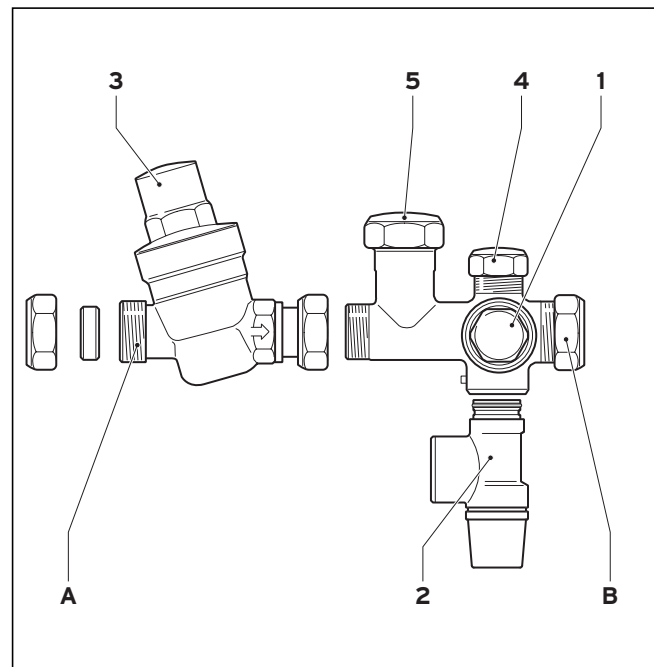

Fig. 8
- Connect the two cold water control valves together as shown in fig. 8, ensuring that the orientation of the valves, when installed in the cold mains supply, allows the 15 mm outlet of the expansion relief valve to be connected to the tundish.
To ensure optimum performance from the uniSTOR, and particularly in installations where the balanced pressure cold water outlet (5, fig. 8) is to be used, the pipework provided from the building mains stop valve to the uniSTOR cylinder should be minimum 22 mm copper tube.
- Install the assembled cold water control valves (fig. 8) in the cold mains supply at a convenient position adjacent to the uniSTOR cylinder, ensuring adequate space exists for service access and allow for connection of the discharge pipe from expansion relief valve.
- i. Screwing the vessel directly into the control assembly at the purpose provided connection (1, fig. 8) or;
- Connect the balanced pressure cold water supply (if required) to the cold water control pack (see fig. 8).
In areas where the mains water pressure is high (4 bar or above) the cold water supply to a bath or shower mixer valve can be taken from the balanced pressure cold water outlet (5, fig. 8) of the cold water controls. This will ensure that both hot and cold supplies to the mixer valve are at approximately the same pressure. The cold water supply for all other terminal fittings should be feed into the cold water supply pipework to the uniSTOR upstream of the cold water controls.